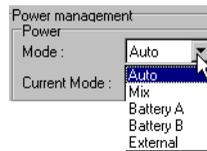

Figure 2-2. Select Power Mode
4. Select the **Power Mode** drop-down list to set the desired power source (Figure 2-2). **Current Mode** displays the current power source.